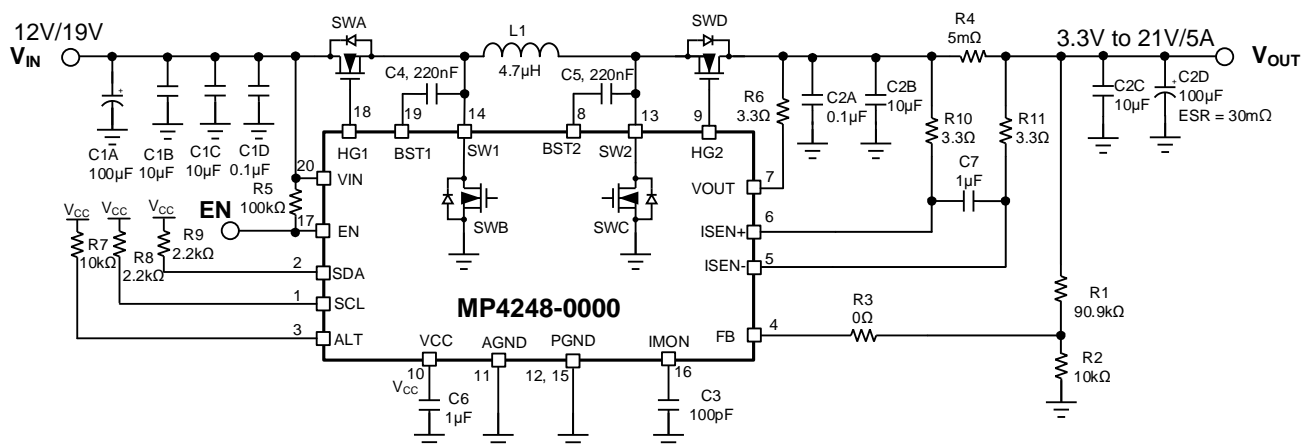

Figure 16: Typical Application Circuit ($V_{IN} = 12V/19V$, $V_{OUT} = 3.3V$ to $21V/5A$, Default On)
10) The recommended layout is based on Figure 16 on page 40.